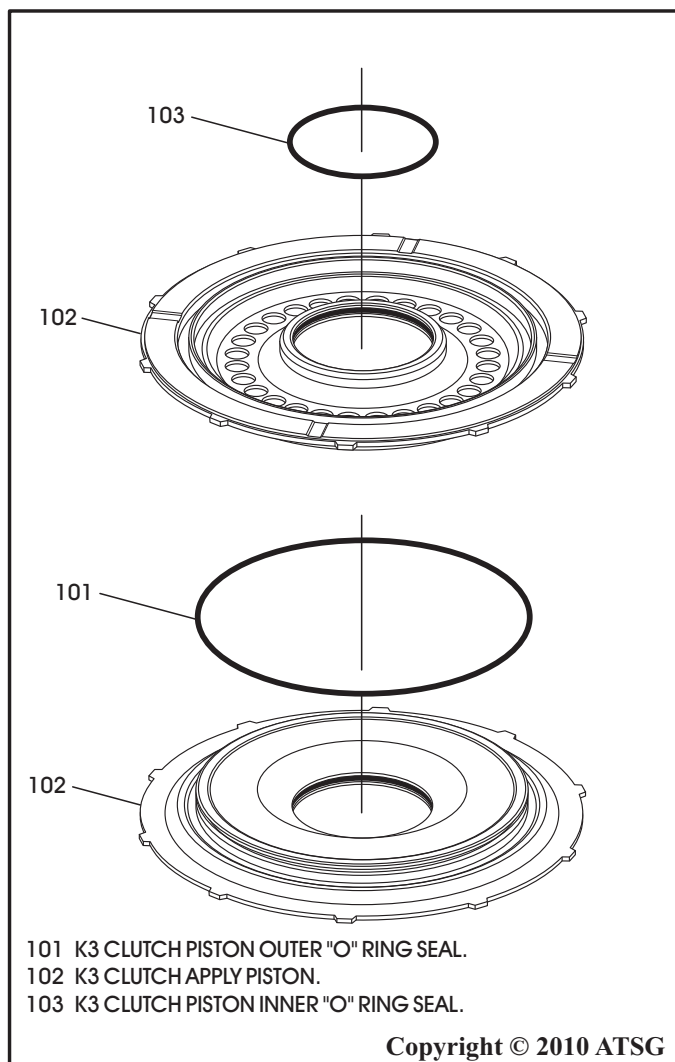

Figure 107
4. Install new inner and outer "O" ring seals in the grooves of the K3 clutch apply piston, as shown in Figure 107.